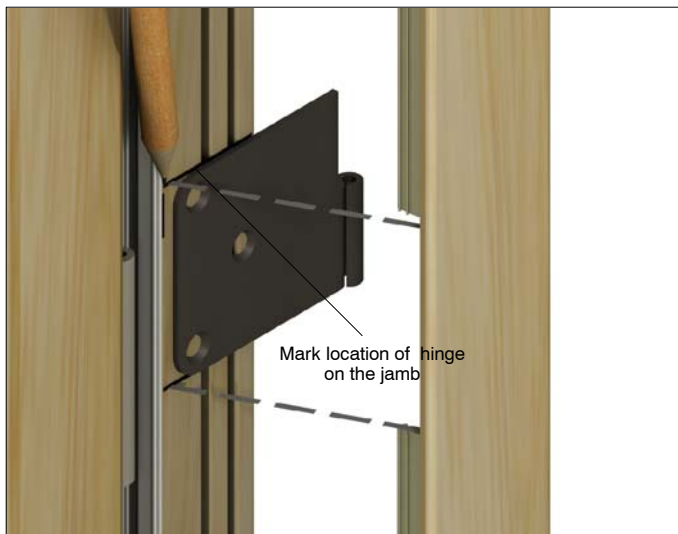

Figure 2
2. Place butt hinge routed side stop in place and insert the butt hinge. (For casement units determine which side will be the hinge side.) Slide the stop to the exterior and lightly mark the top and bottom location of each hinge on the jamb. See figure 2.